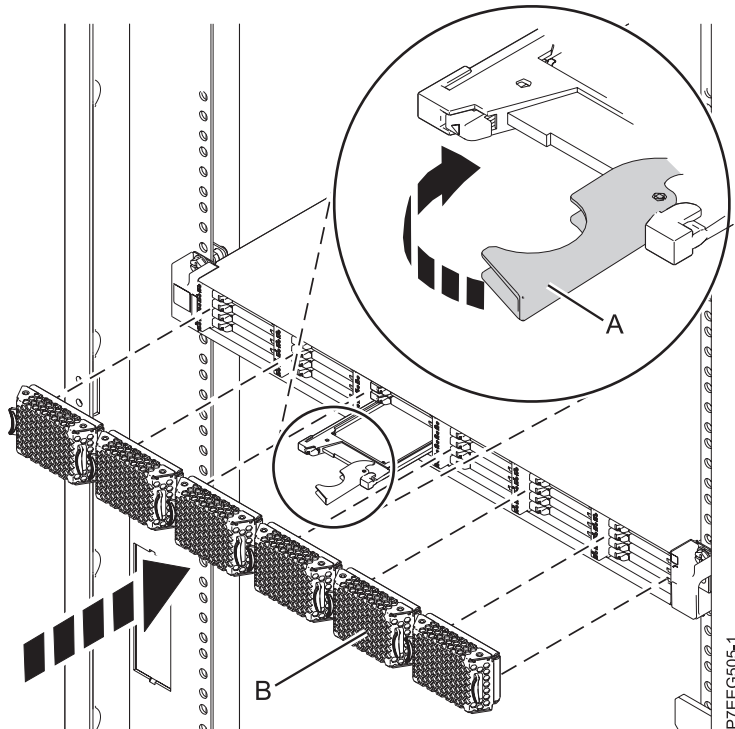

Figure 14. Installing a solid-state drive in the ED/R1 PCIe storage enclosure
1. With the handle in the unlocked position, align the solid-state drive with the guide rails in the enclosure. See Figure 14 on page 24,
3. Rotate the handle (A) to the locked position, as shown in Figure 14 on page 24.
4. Install the bezel (B).